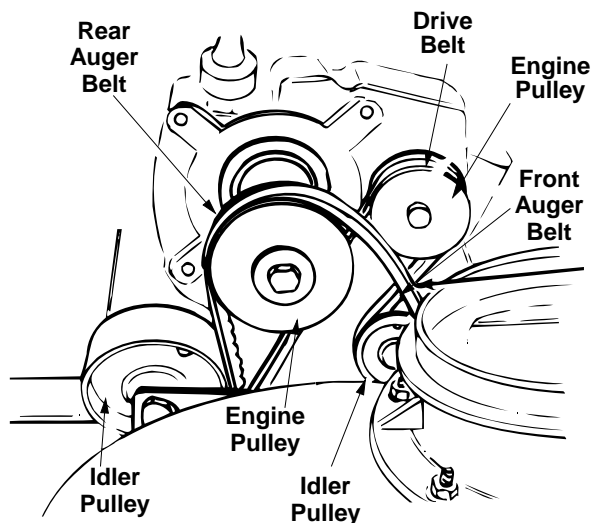

Figure 30
5. Roll the front and rear auger belts off the engine pulley. See Figure 30.
2. Pull idler pulley up, and lift belt off engine pulley, idler pulley, and friction wheel disc. See Figure 30.